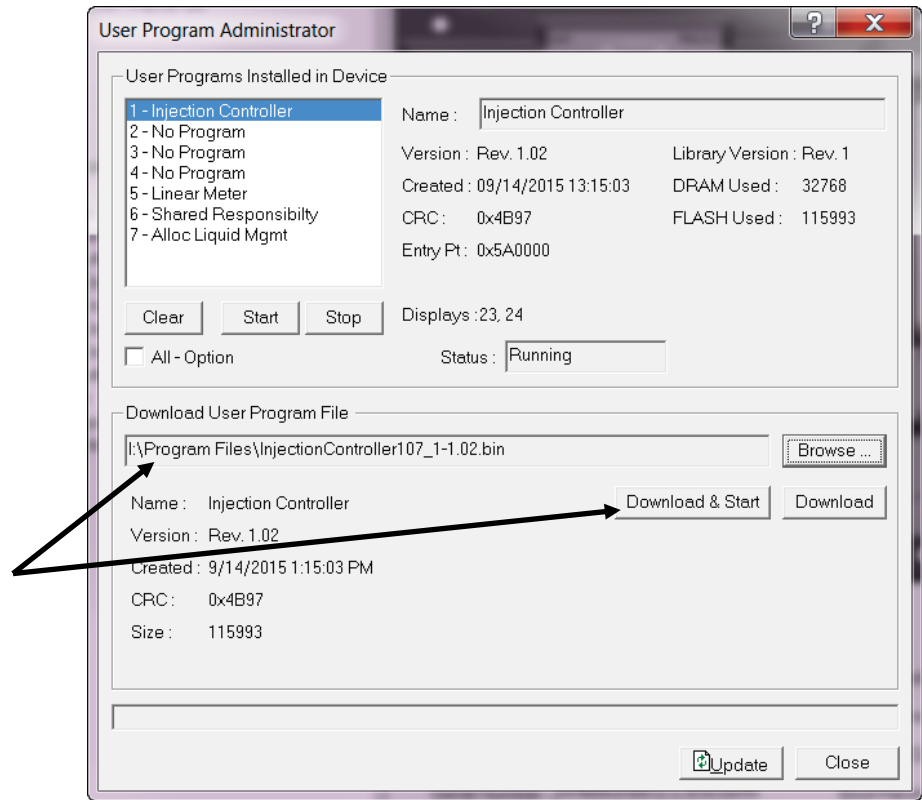

Figure 9. User Program Administrator
- Click **Open** to select the program file. The User Program Administrator screen displays. As shown in *Figure 9*, note that the Download User Program File frame identifies the selected program and that the **Download & Start** button is active: